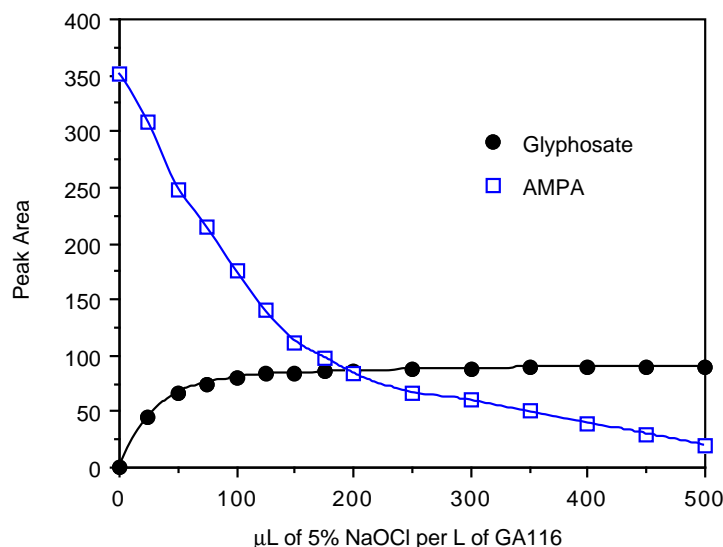

Figure 4-2
- b. Add 100  $\mu$ L of 5% sodium hypochlorite solution (Clorox) to the diluent. The exact amount will depend on the actual hypochlorite concentration of the stock solution. When you get your first chromatograms, you will be able to adjust the amount to optimize the relative peak areas of glyphosate versus AMPA. Figure 4-2 shows a typical response curve.